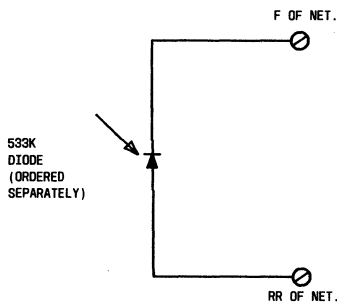

Fig. 5—Installing Diode for Dial Restriction
- (1) 830-Type Telephone Set:
- (a) Install a 533K diode between terminals RR and F of the network as shown in Fig. 5.
- (2) 2830-Type Telephone Set:
- (3) Installations as described above will restrict dialing on all lines of the respective telephone
Note 1: Rotary dial telephone sets must have a 533K diode (ordered separately), installed between RR and F of the network see Fig. 5.